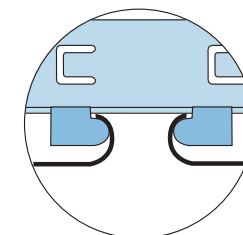

Fig.7 Open joint
Ceilings overlaid with inert fibrous insulation material (4) (Fig. 5) act as sound absorbent membranes. To achieve this the joints between plain profiles must be open (Fig. 7).